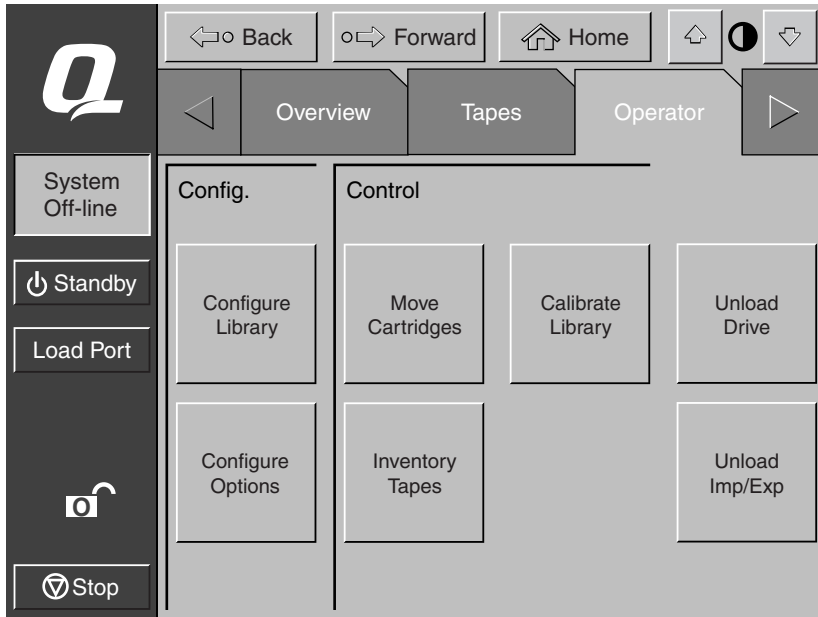

Figure 4-2. Operator screen
2. Enter the correct operator or service password to gain access to the Operator screen (see Figure 4-2). The default operator password is 1234.